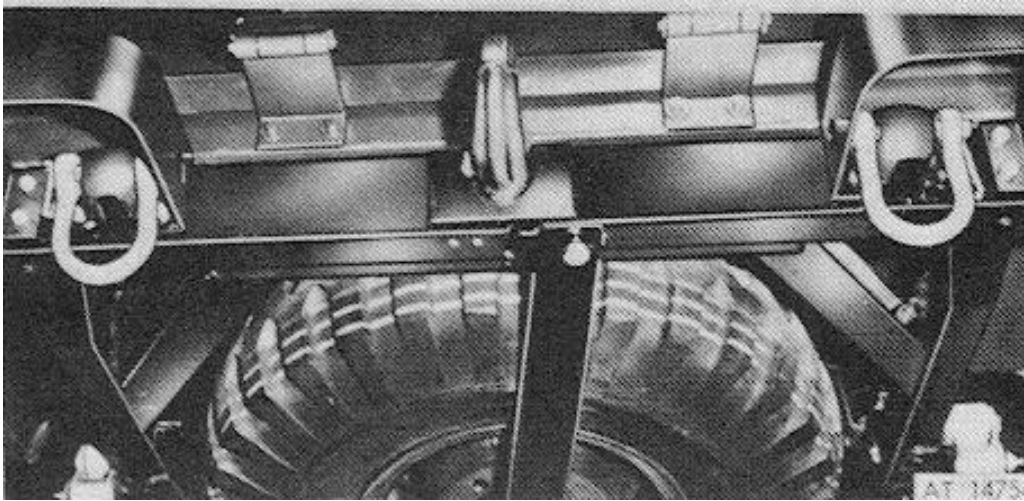
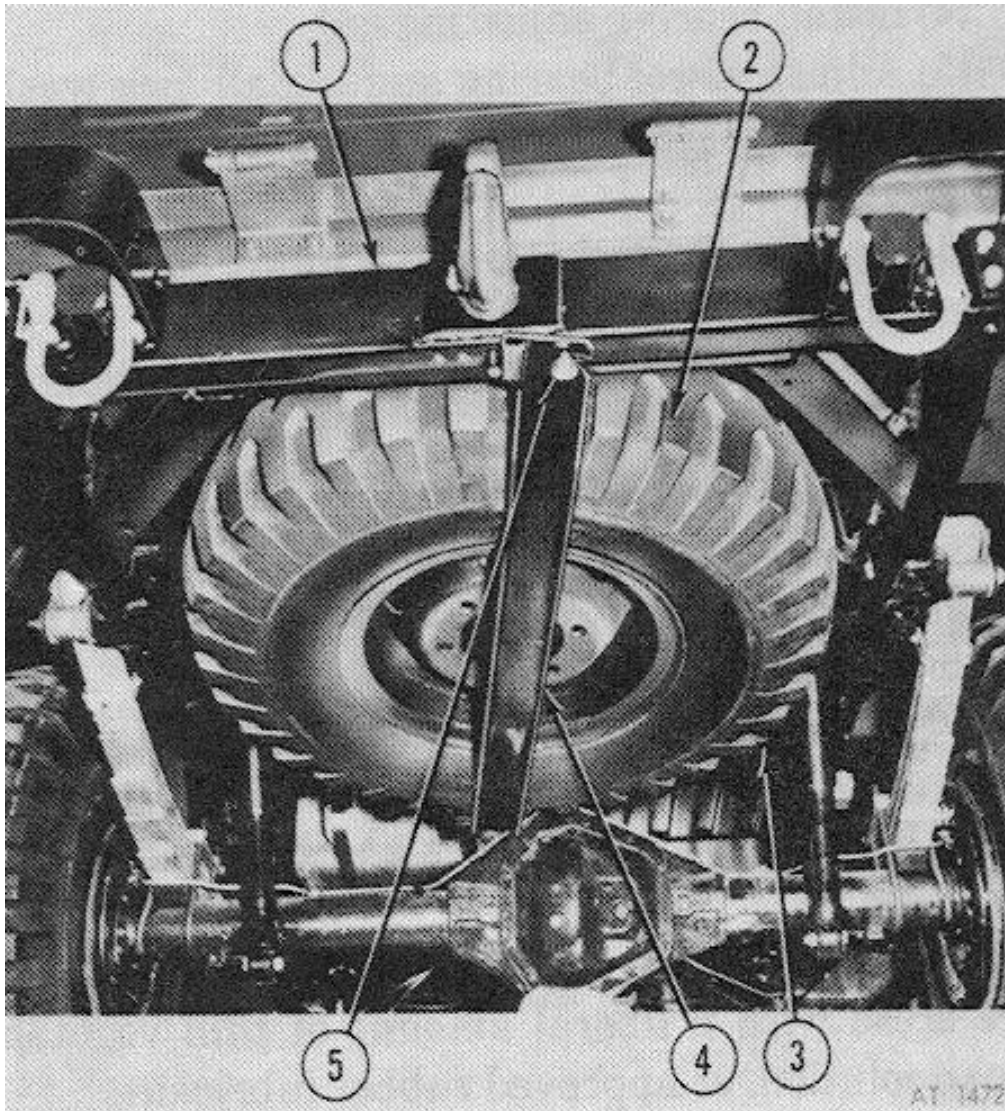

Figure 2-92. Towing shackles.
Figure 2-93. Spare tire stowed.
b. Towing Shackles. (Fig 2-92)
- (1) Remove cotter pin from shackle pin and remove shackle pin from bracket.
- (2) Remove shackle from bracket.
- (3) Remove four nuts, lock washers and bolts which secure rear towing shackle assembly to rear crossmember and remove shackle assembly.
- (1) Remove towing shackles as described in (bi above).
- (2) Remove remaining nuts, lock washers and bolts which secure bumper to frame front and remove bumper.
f. Spare Tire Wheel Carrier. (Fig 2-93)
- (1) Loosen spare wheel mounting bar bolt attached to rear frame crossmember.
- (2) Slide slotted mounting bar left from bolt; lower mounting bar and remove spare wheel.
- (3) Remove cotter pin and lower strap bracket pin attaching mounting bar.
- (4) Remove spare wheel mounting bar from vehicle.
(1) Position lifting brackets on front and rear wheels.
(2) Install four lock washers and nuts and tighten.
d. Towing Shackles. (Fig 2-92)
(1) Position rear towing shackle plates on rear crossmember. Install four bolts, lock washers and nuts; tighten to 80-120 lbs-ft. torque.
(2) Install shackle on bracket and insert shackle pin through shackle and bracket.
(3) Install cotter pin in shackle pin.
(1) Position mounting bar on frame strap bracket and install retaining pin, washer and cotter pin.
(2) Install spare wheel onto mounting bar: raise mounting bar and attach to bolt.
(3) Tighten bolt securing spare wheel.